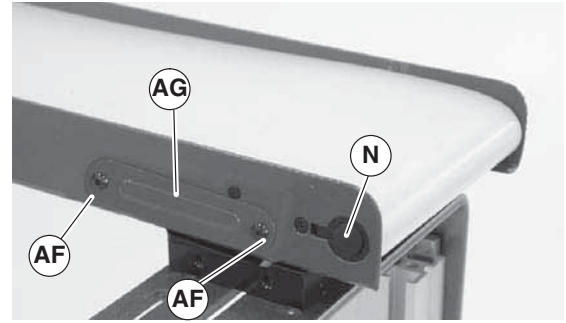

Figure 32
1. Remove screws (Figure 32, item AF) and tension pin cover (AG) and plastic plug (N).